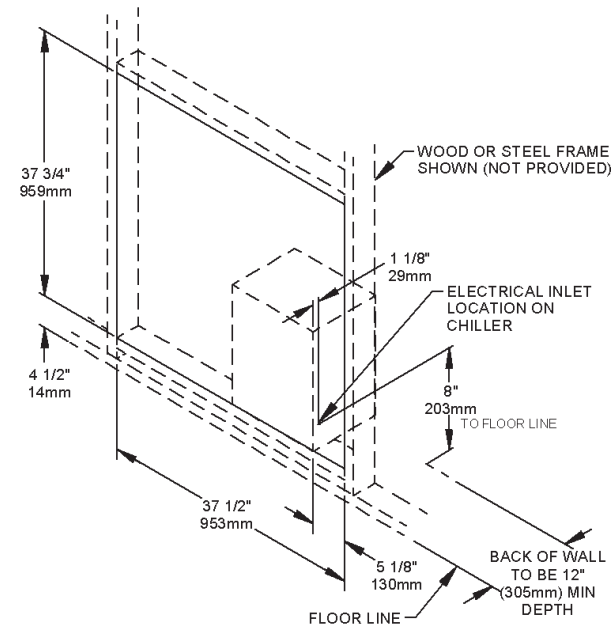

Figure 7 – Rough-In Assembly
1. **Cut a rectangular wall opening** 37-1/2" (953 mm) W x 37-3/4" H (959 mm) and 4-1/2" (114 mm) above the floor line (see Figure 7). The dimensions are required to obtain proper rim and bubbler heights for compliance with ANSI standard A117.1.
3. **Install plumbing and electrical rough-ins.** A junction box for a (3) wire, 10 amp branch circuit is provided on the inside of the chiller. (Standard 120 Volts, 60 Hz, and single phase.)
4. **Remove frames and related hardware** from packaging. Release the two shelf rods by cutting cable ties. Attach the two frames together through the upright supports with (4) 5/16" x 3/4" (19 mm) long bolts and nuts (provided). Tighten securely.